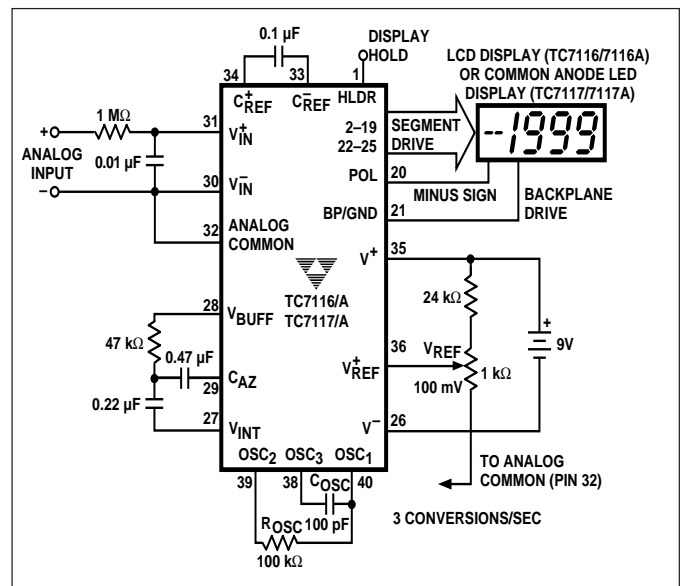

Figure 1. Typical TC7116A/7117A Operating Circuit
3. Unless otherwise noted, specifications apply at T_A = +25°C, f_{CLK} = 48 kHz. TC7116/TC7116A and TC7117/TC7117A are tested in the circuit of Figure 1.